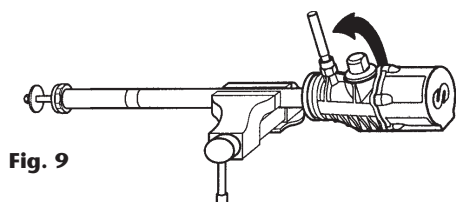

Fig. 9
3. Unscrew the air motor body from the suction tube using a threaded rod (fig. 9), and pull it out until it tops. The union nut gets visible.